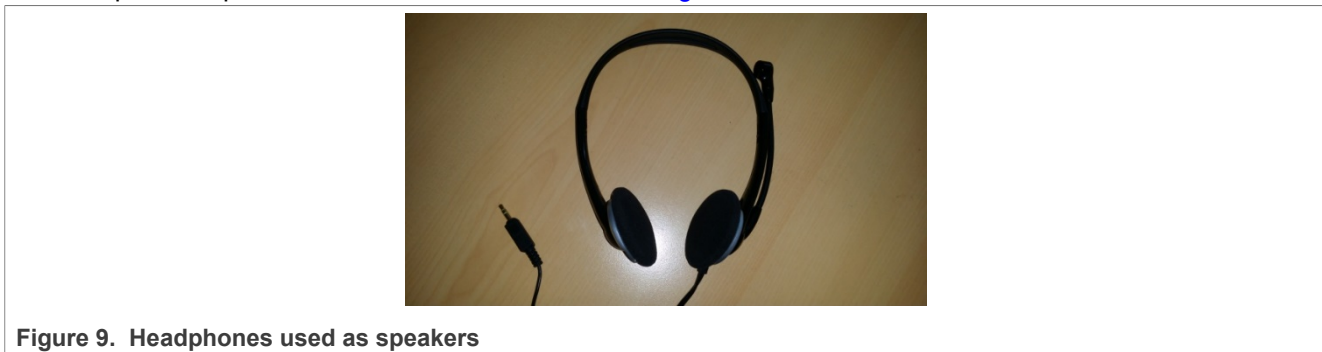

Figure 9. Headphones used as speakers
3. Headphones/speakers with male Jack as shown in Figure 9